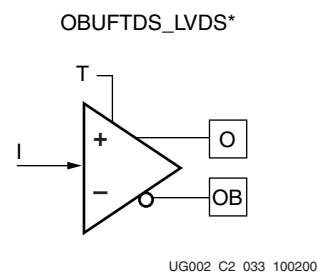

Figure 2-121: LVDS 3-State Primitives
**Figure 2-121** illustrates the LVDS 3-state buffer primitives: